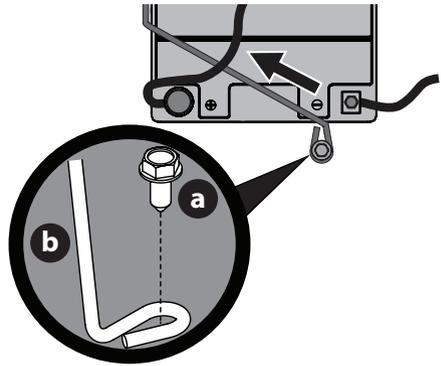

Figure 21
NOTE: Wiring harness should lay on top of battery hold-down rod, otherwise damage to the wiring harness may result (Figure 21 on page 14).
3. Remove the hex washer screw (a) securing the battery hold-down rod (b) to the frame. Then flip the battery hold-down rod (b) up to free the battery (Figure 21).